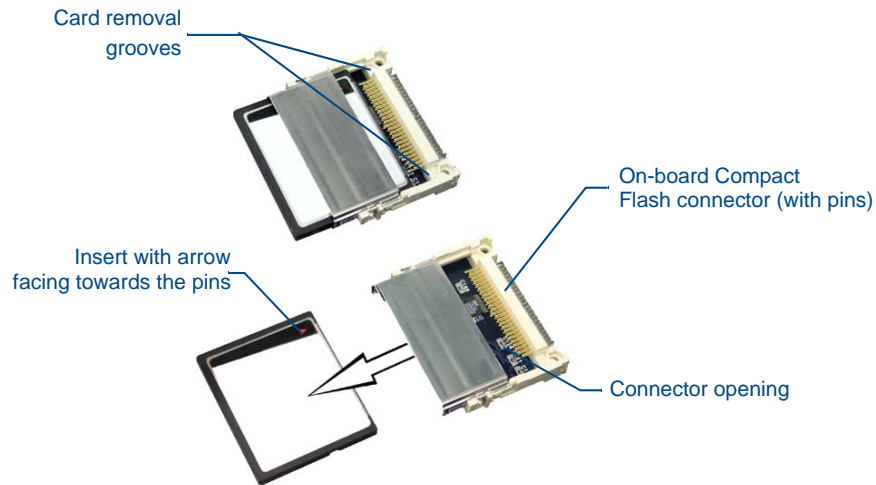

FIG. 6 Removing/installing a Compact Flash Memory card
2. Insert the tip of a grounded flat-head screwdriver into one of the card removal grooves (located on either side of the existing card), and gently pry the card out of the slot (FIG. 6). Repeat this process on the opposite card removal groove. This alternating action causes the card to "wobble" away from the on-board connector pins.